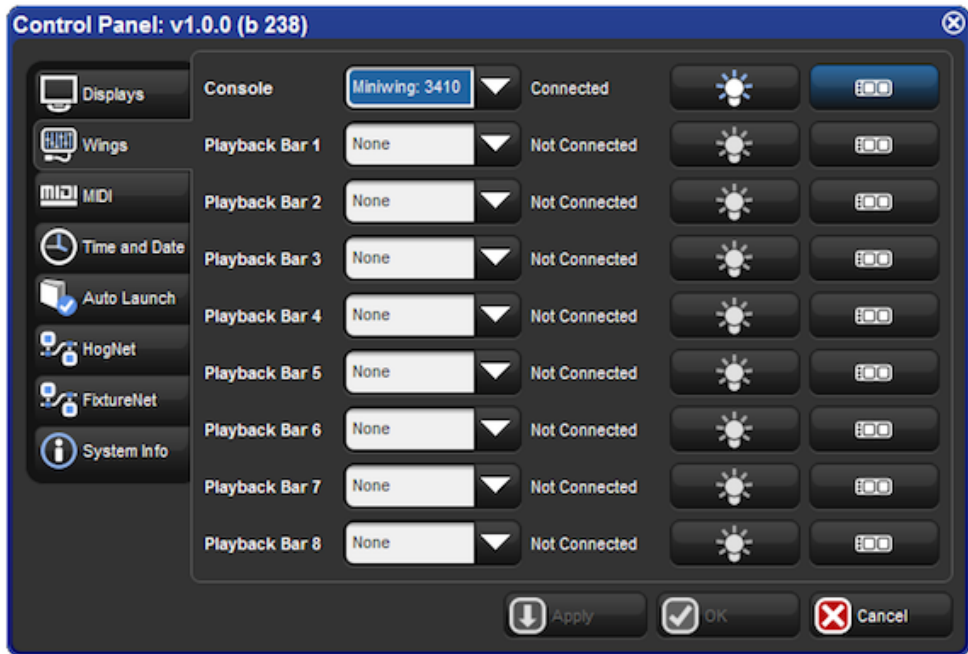

Figure 3.13. The Wings pane of the Control Panel with Playback Wing Mapping
2. Setup → Control Panel → Wings : open the Wings pane of the Control Panel window (see Figure 3.13, "The Wings pane of the Control Panel with Playback Wing Mapping").